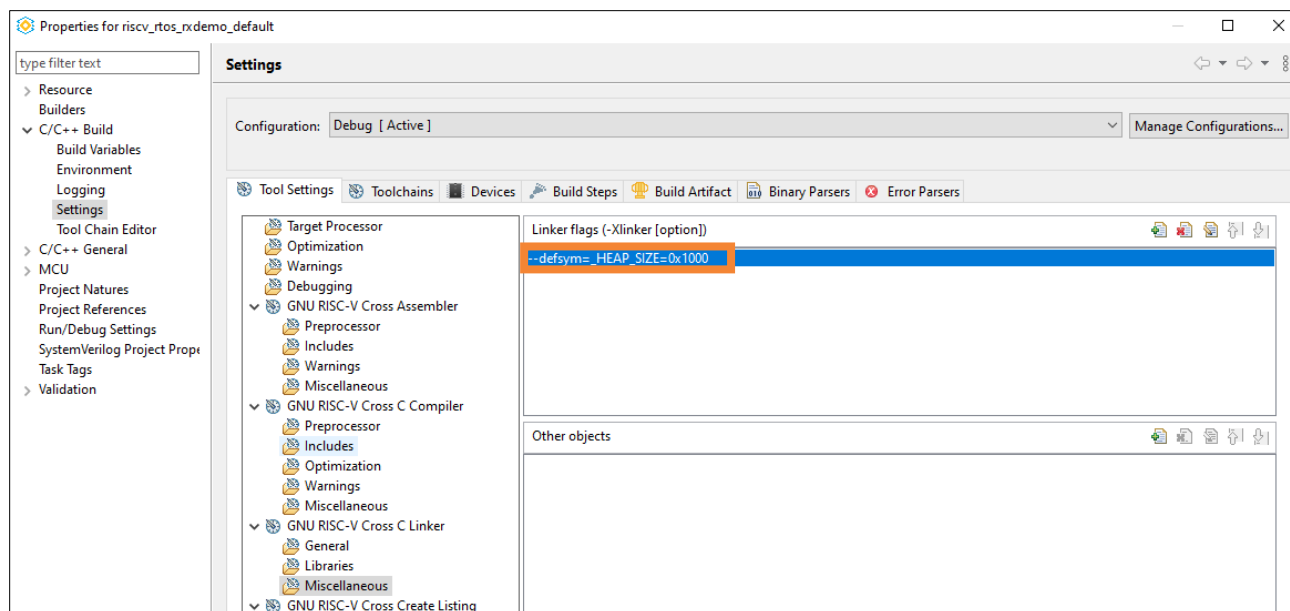

Figure 5.26. `--defsym=_HEAP_SIZE=0x1000` Linker Flag
6. Select **GNU RISC-V Cross C Linker > Miscellaneous**. Add the linker flag, `--defsym=_HEAP_SIZE=0x1000` (Figure 5.26).